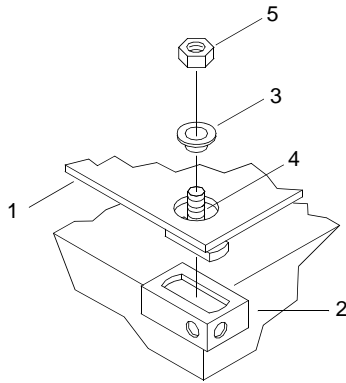

Figure 11. Deck Mat Installation
7. Position and place deck mat (figure 11, item 1) on the appropriate intermediate section with corner held over ISO corner fitting (figure 11, item 2).
8. Place washer (figure 11, item 3) over tee bolt (figure 11, item 4).
9. Start nut (figure 11, item 5) on threaded portion of tee bolt (figure 11, item 4).
10. Tilt tee bolt (figure 11, item 4) and place through deck mat (figure 11, item 1) corner hole and into ISO corner fitting (figure 11, item 2).
11. Turn tee bolt (figure 11, item 4) until it contacts inner surface of corner fitting (figure 11, item 2) and hand-tighten nut (figure 11, item 5). Snug down nut (figure 11, item 5) with socket, adapter and wrench.